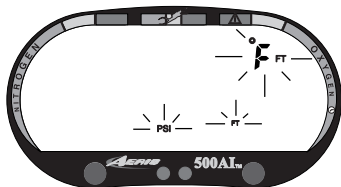

Fig. 24 - Set Units
- the Units of Measure icons appear flashing (Fig. 24)